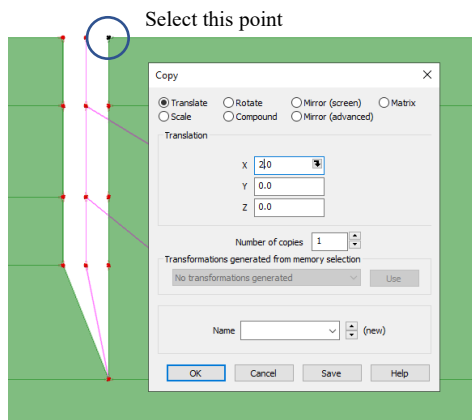

Figure 12: Copy point for load position
- To define the points between which the surface load is applied, select the point (10,20) and copy it **2m** to the right using **Geometry > Point > Copy...** (figure 12). Copy again to generate a point **7m** to the right.